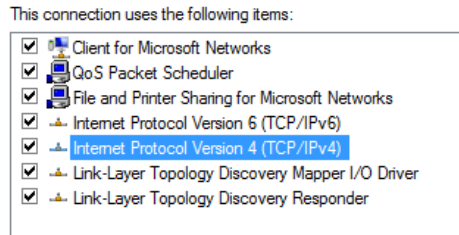

Figure 13 Local Area Connection Properties dialog box – Internet Protocol Version 4
- d In the list of items under **This connection uses the following items**, double-click **Internet Protocol Version 4 (TCP/IPv4)** (Figure 13).